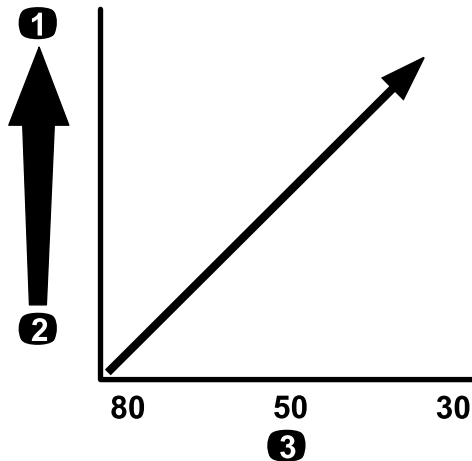

**Figure 20**
**Important:** When you spray with higher viscosity (thicker) chemical products or solutions with wetttable powders, you may need to use a coarser screen mesh for the optional suction filter; refer to Figure 20.